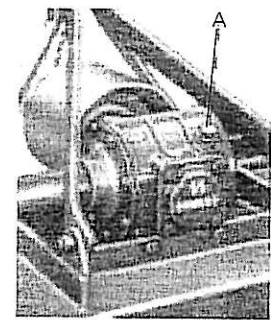

Fig. 3
2. The gearbox filled up to the level mark in the inside rod (A) (fig. 3). Capacity 1,5 l. (HR14 / HR16) and 3,5 l (HR19 / HR21). Use SAE 90 oil.